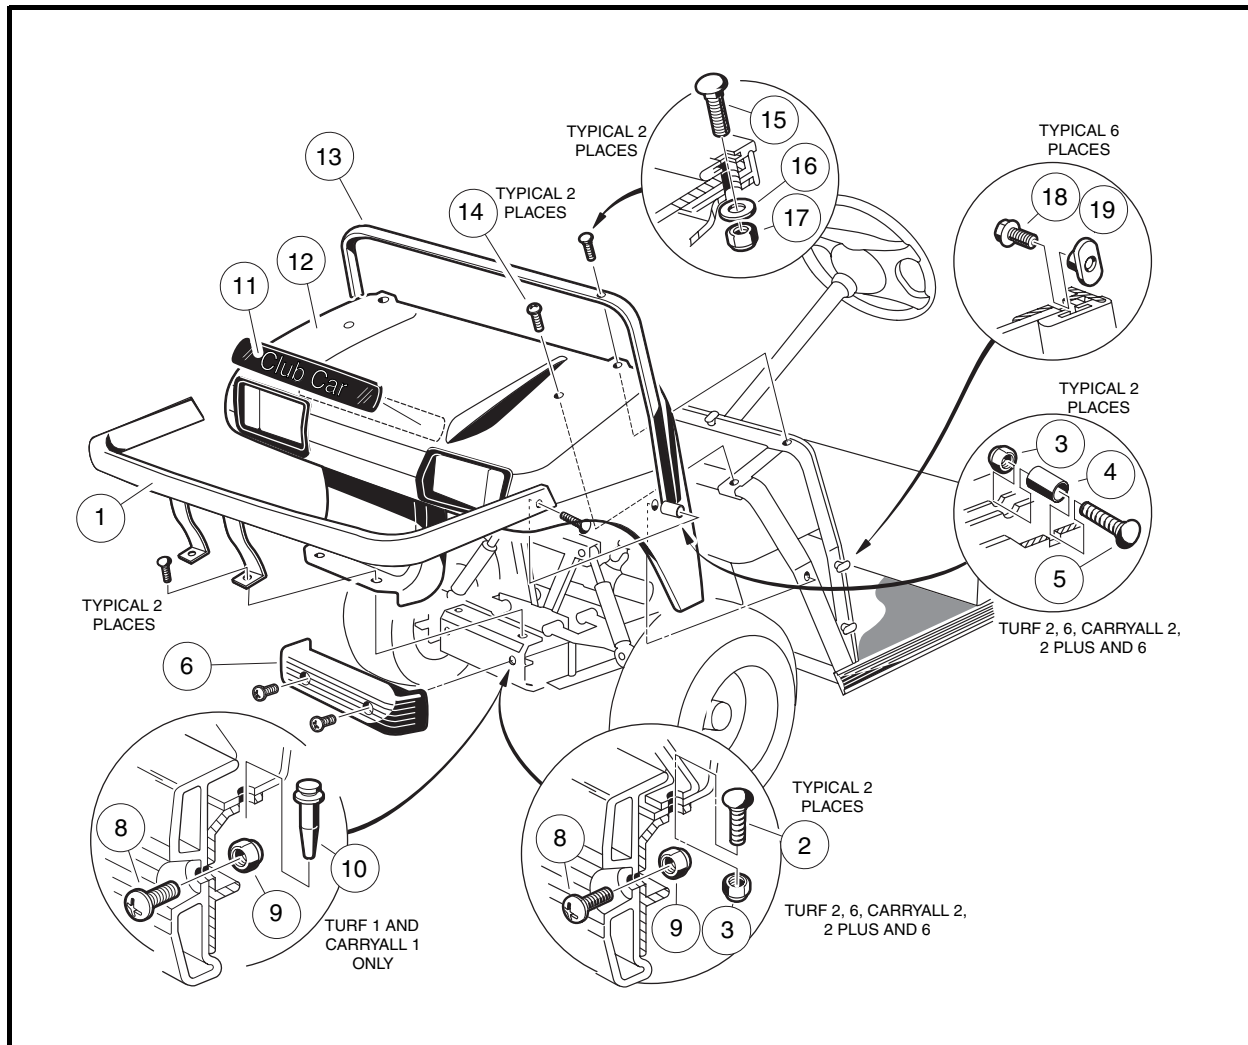

Figure 4-1 Front Body Assembly
1. Remove screws (8) and lock nuts (9) and lift front bumper (6) from vehicle frame (**Figure 4-1, Page 4-4**).
1. Install front body (12) under trim (13), align holes and finger-tighten screws (14) holding front body against frame **(Figure 4-1, Page 4-4)**.
2. Install carriage bolts (15), washers (16), and lock nuts (17) onto front body trim. Tighten bolts to 11 ft-lb (14.9 N·m). Tighten screws (14) to 20 in-lb (2.3 N·m). **See following NOTE.**
- 5.1. Install two carriage bolts (2) and lock nuts (3) from the heavy-duty front bumper support braces and install bumper (1). Tighten bolts to 65 in-lb (7.3 N·m) (**Figure 4-1, Page 4-4**).
- 5.2. Install two carriage bolts (5), spacers (4), and lock nuts (3) into heavy-duty bumper mounting positions located on sides of front body (12). Tighten bolts to 65 in-lb (7.3 N·m).
6. **Turf 1 and Carryall 1 vehicles:** Install two push type blind rivets (10) that secure lower front body to frame (**Figure 4-1, Page 4-4**).
7. Install front bumper onto vehicle and install screws (8) and lock nuts (9). Tighten to 65 in-lb (7.3 N·m).